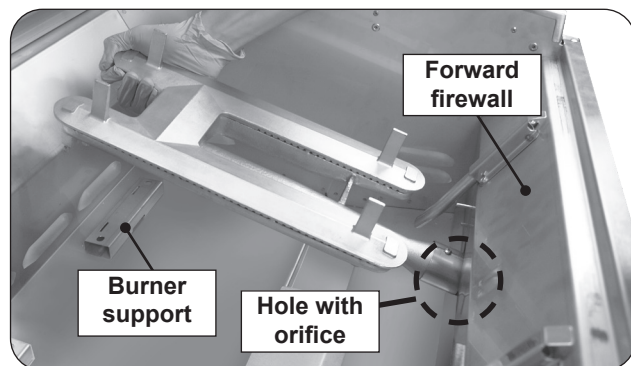

Fig. 43-3 Remove main burner
3. Carefully lift the burner from the burner support and out from the hole in the forward fire wall. See Fig. 43-3.